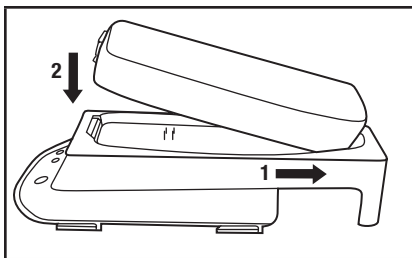

Fig. 8 - Inserting battery in charging cradle
3. Ensure the gold electrical contacts on the battery and charger are clean and free of debris. Insert the battery pack into the 3M™ Charger Cradle TR-640 by sliding the hinge end of the battery pack in first. Push down to click the front end into place (Fig. 8). Charging will begin.